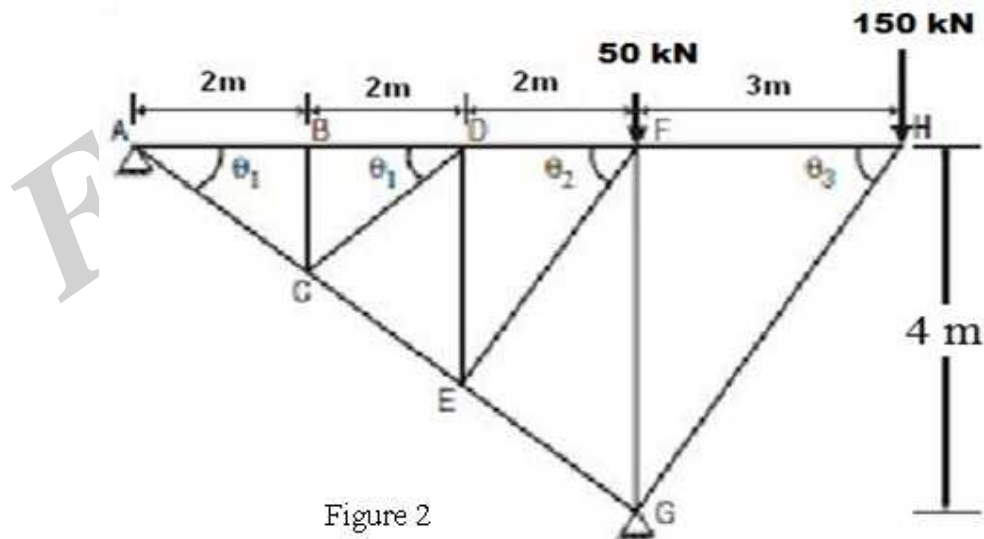

Figure 2
8. Find the forces in all the members of the truss shown in Figure 2 using method of joints.